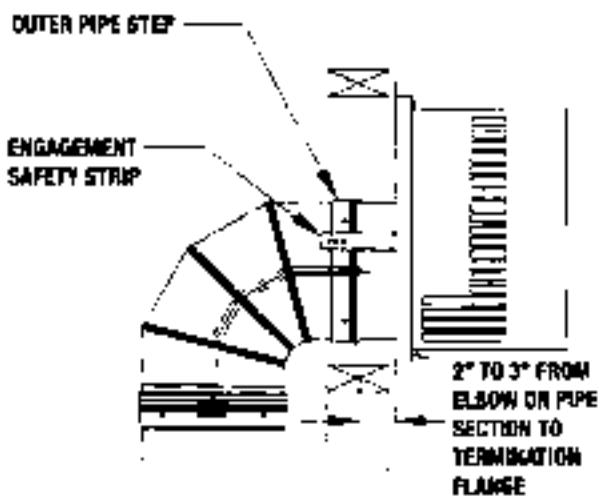

FIGURE 4-4
- 5) Position the termination as shown on figure 4-4. Insert the vent system inner pipe into the termination inner pipe. The outer pipe of the termination must slide into the open end of the vent system until the engagement safety strips on the termination are about even with the vent outlet pipe step.
- 7) Secure the termination to the vent pipe using the #15 x 1/2" sheet metal screws (provided) through the holes on the engagement safety strips. See figure 4-4.
**NOTE:** The minimum clearance from the termination outer pipe to combustible materials is 3" on the top and 1" on the bottom and sides. The termination design will allow the proper clearances to be maintained when centered in the frame opening and secured to the studs. See figure 4-4.